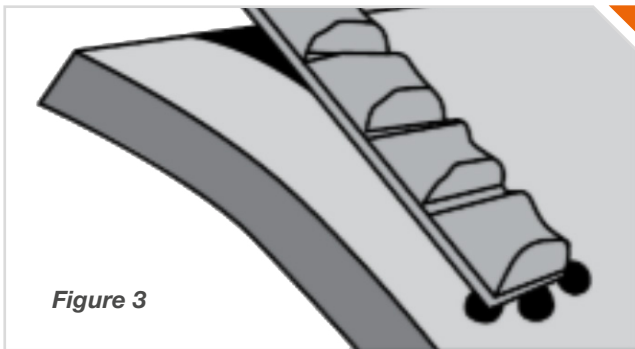

Figure 3
2. Tack weld one end of the chocky bar (as per welding procedure) in at least 3 places. Minimum of 15mm lengths per weld as in Fig 3.